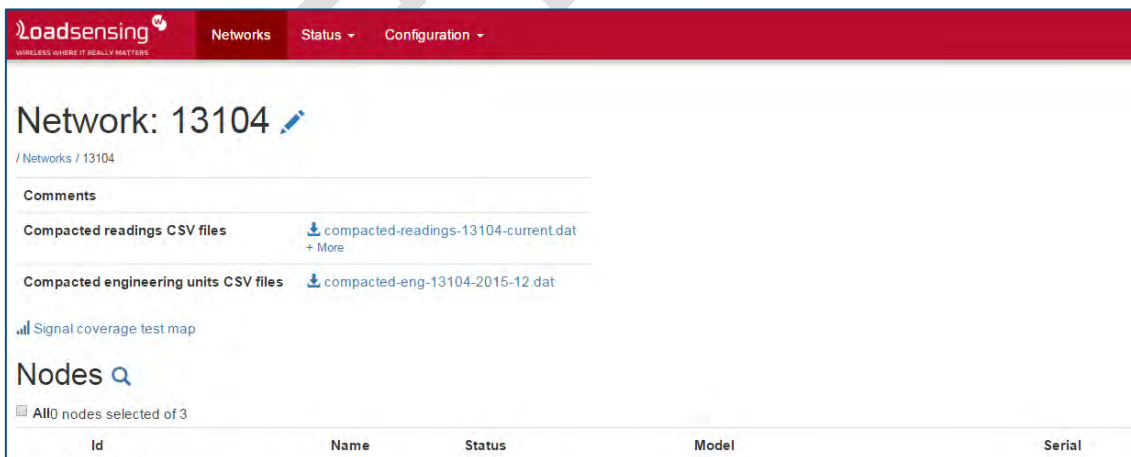

Figure 39: View of the screen where the .csv files of the raw data and the data transformed into engineering units (of the complete network) can be downloaded.
- General file of the network: two .dat files are available to download (Figure 39):